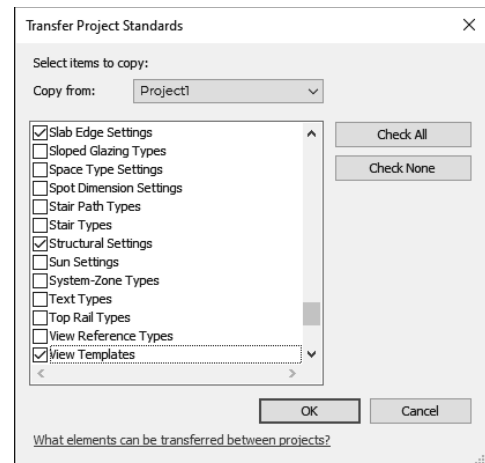

FIGURE 8-2.1 Transfer project settings
8. After clicking *Check None* in the previous step, only check the boxes for the items listed below (Figure 8-2.1):